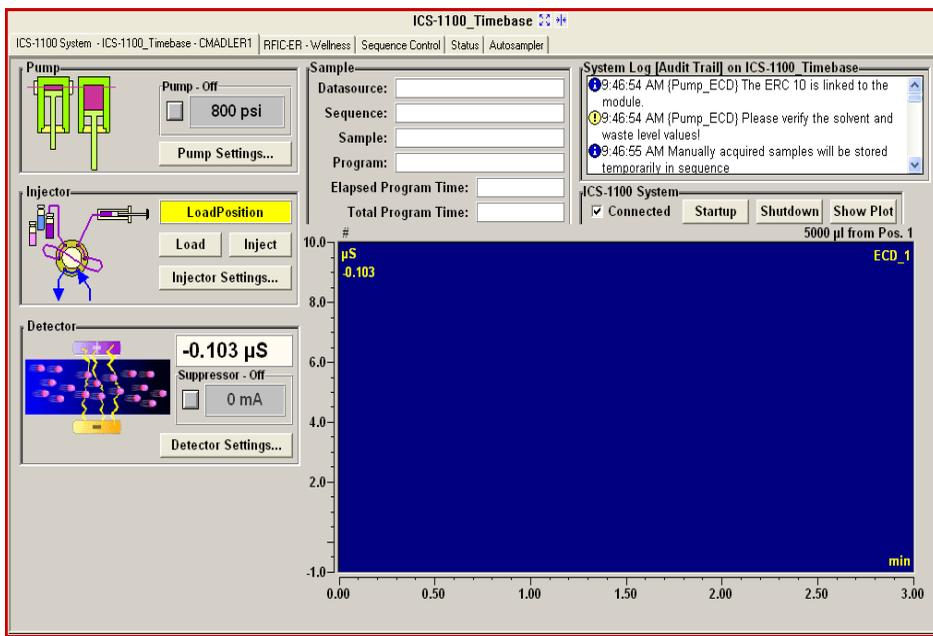

Figure 3-4. Dionex ICS-1100 Control Panel on the Chromeleon Panel Tabset
5. To display the Dionex ICS-1100 Control panel, click the tab labeled with the Dionex ICS-1100 timebase name (see Figure 3-4).
3. Offset the background and zero the reading by clicking the **Autozero** button on the Chromeleon Control panel (see Figure 3-4).
- If the pressure is less than the expected amount, gas may be trapped in the system. To release the gas, remove the pump fitting on the injection valve port, labeled **P (2)**. Allow the air to escape and then reconnect the fitting.